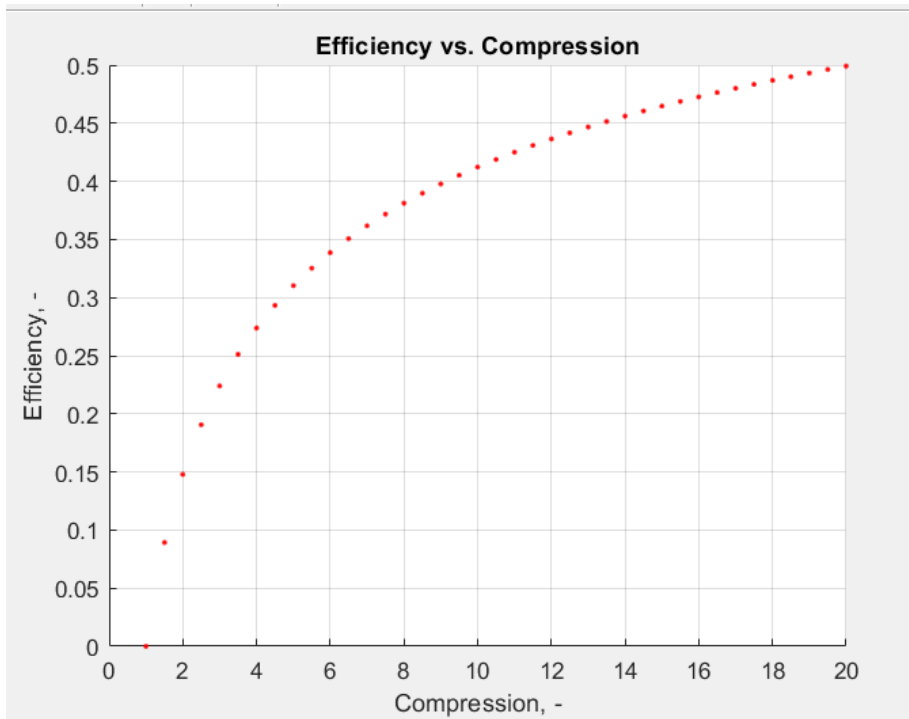

Fig. 2 Example 1
4. Plot the efficiency and output power characteristics (see Fig.2) from the system as a function of: